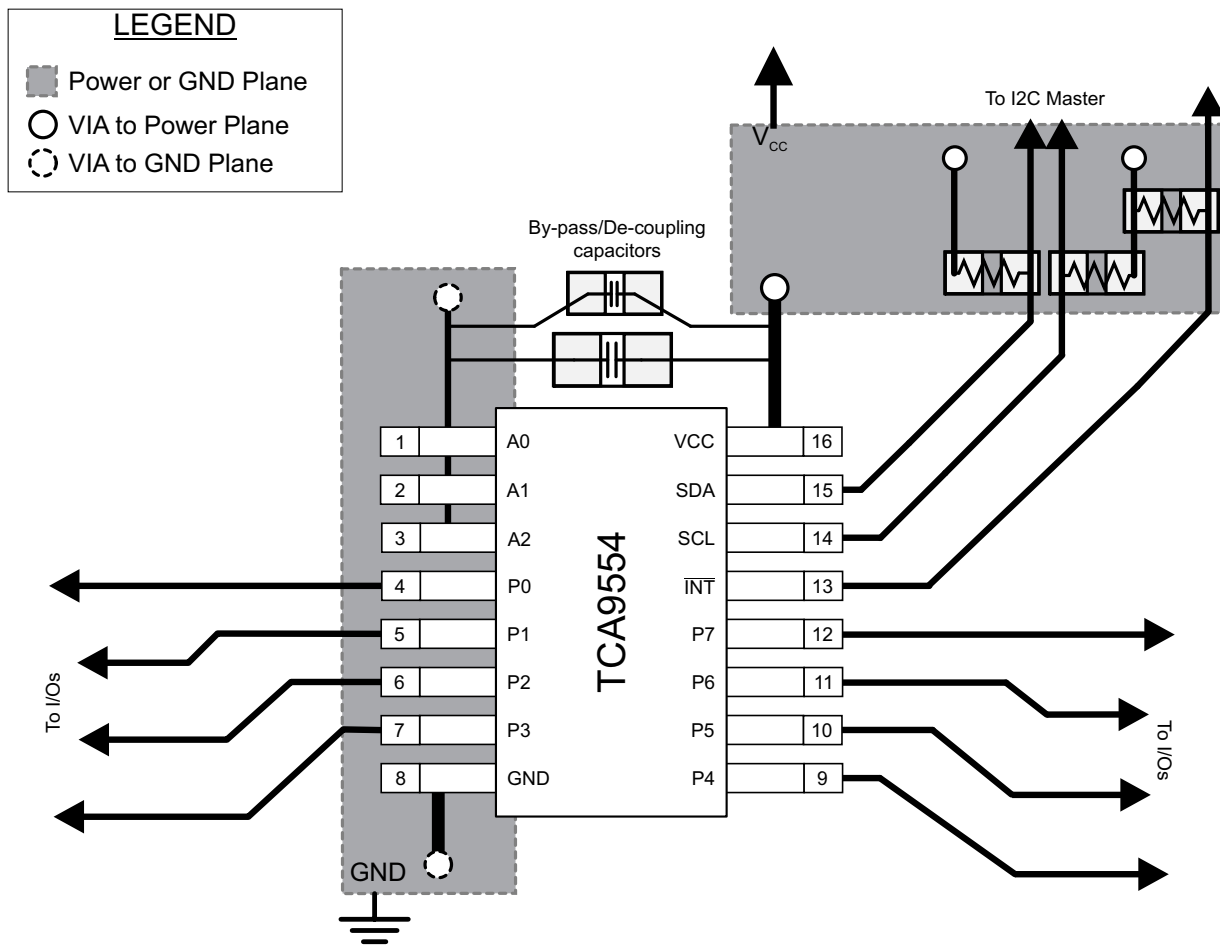

Figure 34. TCA9554 Layout
In all PCB layouts, it is a best practice to avoid right angles in signal traces, to fan out signal traces away from each other upon leaving the vicinity of an integrated circuit (IC), and to use thicker trace widths to carry higher amounts of current that commonly pass through power and ground traces. By-pass and de-coupling capacitors are commonly used to control the voltage on the VCC pin, using a larger capacitor to provide additional power in the event of a short power supply glitch and a smaller capacitor to filter out high-frequency ripple. These capacitors must be placed as close to the TCA9554 as possible. These best practices are shown in Figure 34.
For the layout example provided in Figure 34, it is possible to fabricate a PCB with only 2 layers by using the top layer for signal routing and the bottom layer as a split plane for power (VCC) and ground (GND). However, a 4 layer board is preferable for boards with higher density signal routing. On a 4 layer PCB, it is common to route signals on the top and bottom layer, dedicate one internal layer to a ground plane, and dedicate the other internal layer to a power plane. In a board layout using planes or split planes for power and ground, vias are placed directly next to the surface mount component pad which needs to attach to VCC or GND and the via is connected electrically to the internal layer or the other side of the board. Vias are also used when a signal trace needs to be routed to the opposite side of the board, but this technique is not demonstrated in Figure 34.